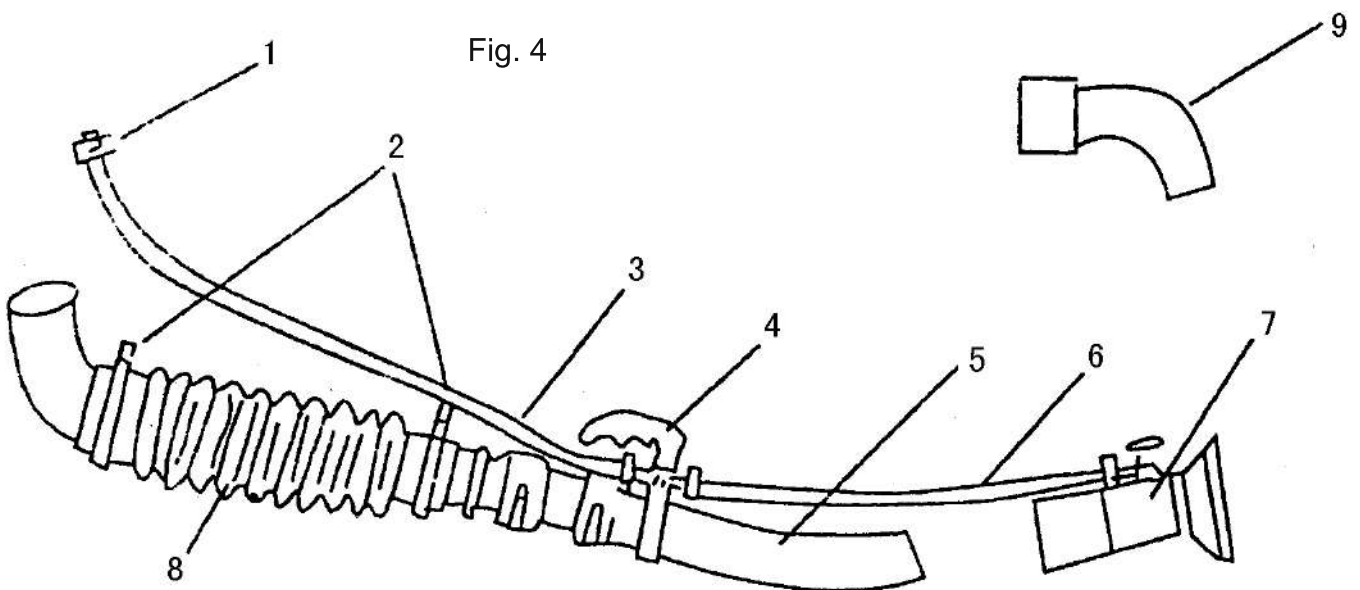

Fig. 4
3) Connect spraying pipe to the machine as shown in Fig.4.